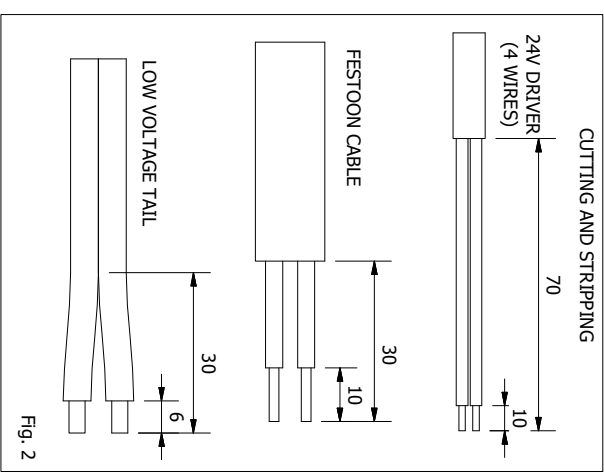

Fig. 2
- 2) Fold gasket lip down completely. (Fig.2)
- 2) Cut and strip wires. (Fig. 2)